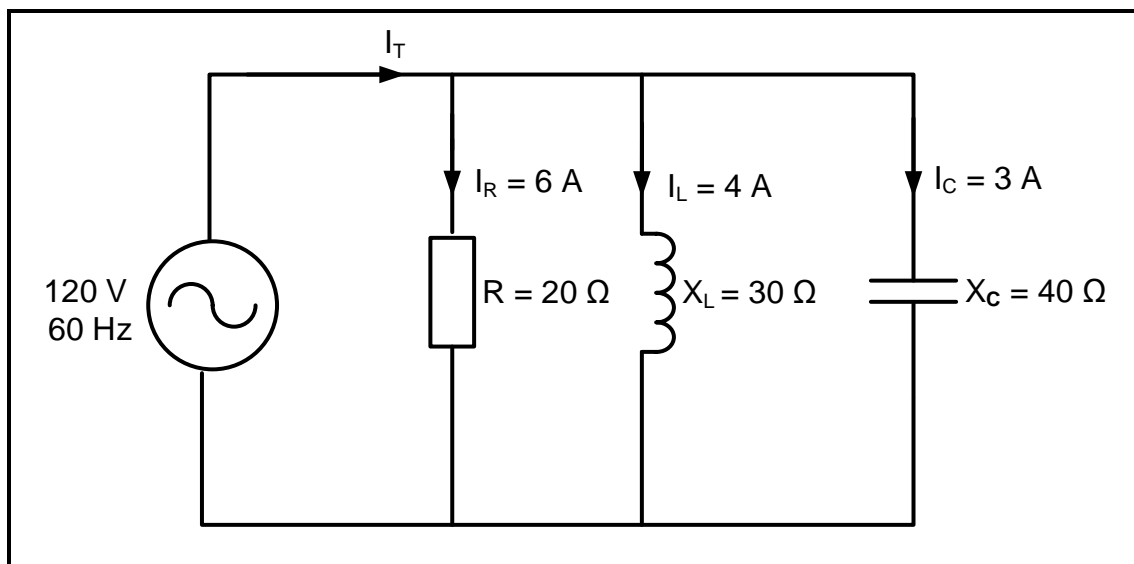

FIGURE 2.4: RLC PARALLEL CIRCUIT
- 2.4 FIGURE 2.4 below shows an RLC parallel circuit consisting of a $20\ \Omega$ resistor, an inductor with an inductive reactance of $30\ \Omega$ and a capacitor with a capacitive reactance of $40\ \Omega$, all connected across a $120\text{ V}/60\text{ Hz}$ supply. Answer the questions that follow.